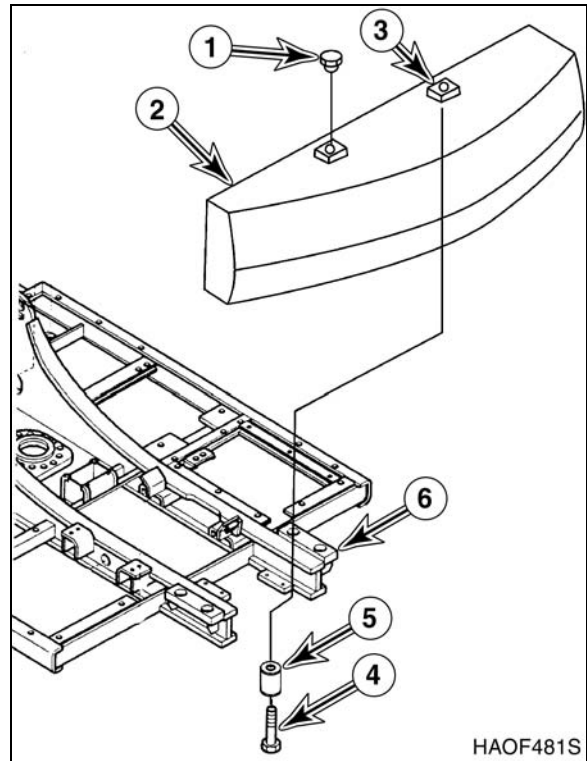

Figure 6
2. Using suitable lifting device capable of handling load, raise counterweight (2, Figure 6) into position just above support frame (6) leaving counterweight suspended. Verify that counterweight is level and even.
NOTE: Leave counterweight (2, Figure 6) suspended 3 mm (0.125") above support frame (6) until all four mounting bolts (4) are started in counterweight mounting holes.
3. Slide spacers/washers (5, Figure 6) onto bolts (4). Apply Loctite #242 to mounting bolt threads.
4. Install four bolts (4, Figure 6) with spacers/washers (5) into counterweight until spacers contact support frame. Fully lower counterweight onto support frame and finish tightening bolts.
NOTE: Tighten bolts (4, Figure 6) to values shown in following table.
5. Remove lifting device and lifting eyes from counterweight lifting holes (3, Figure 6).
6. Install two caps (1, Figure 6) in lifting holes (3).